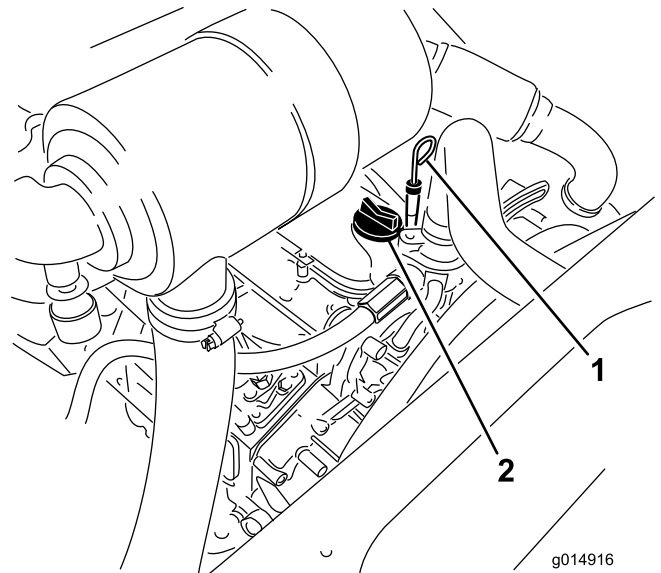

Figure 35
3. Remove the dipstick, wipe it clean, and install it (Figure 35).
- If the oil level is below the Full mark, remove the fill cap (Figure 35) and add oil until level reaches the Full mark on dipstick.